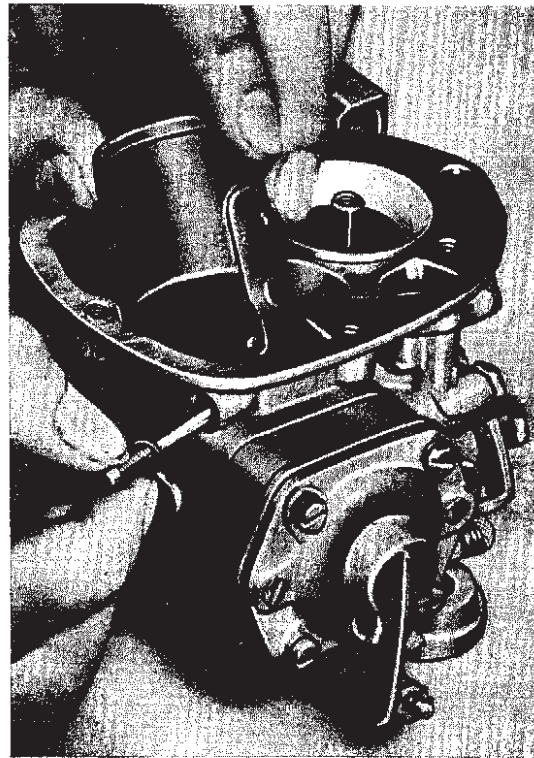

Fig. 11
4. Remove float (see Fig. 11).